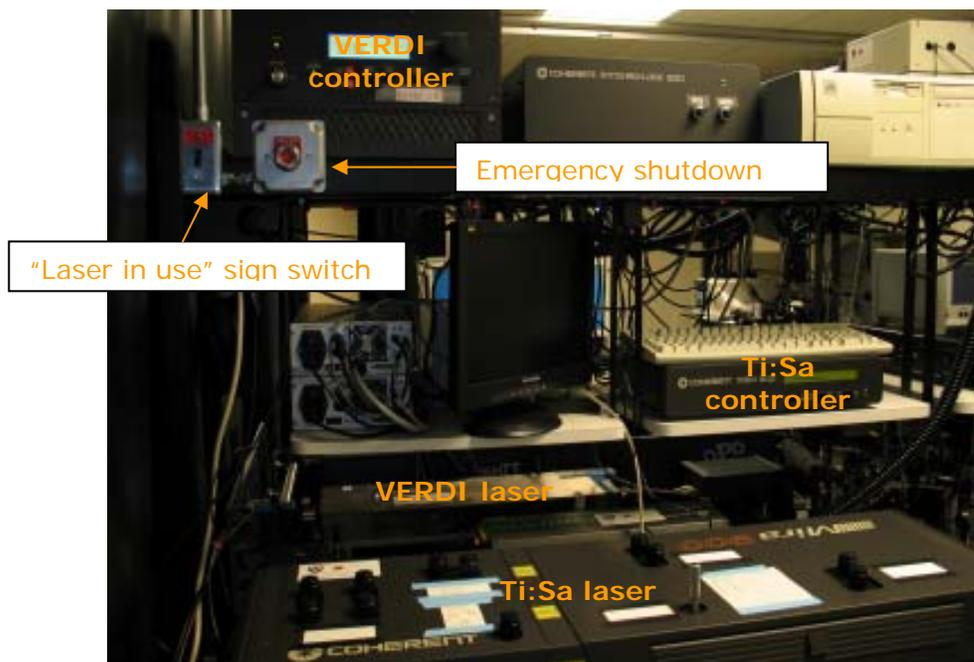

Figure 3: Ti:Sa laser system overview. NOTE the position of the “Laser in use” sign switch and the emergency power shutdown button.
- 5.1.1. Identify the parts of the laser system with the help of Figure 3.
- 5.2.5. Locate the emergency shutdown button (Figure 3). *Push it in case of emergency only* – this will trigger an immediate and complete power down of the whole instrument.
- 5.2.7. Switch on the “Laser in use” sign; the switch is located near the emergency shutdown button (Figure 3).
- 5.3.3. Check the status of the VERDI and Ti:Sa controllers. You should find them as shown in Figure 3: Both in standby mode, the LCD screens on. The key on the VERDI controller should be in the “Standby” position.